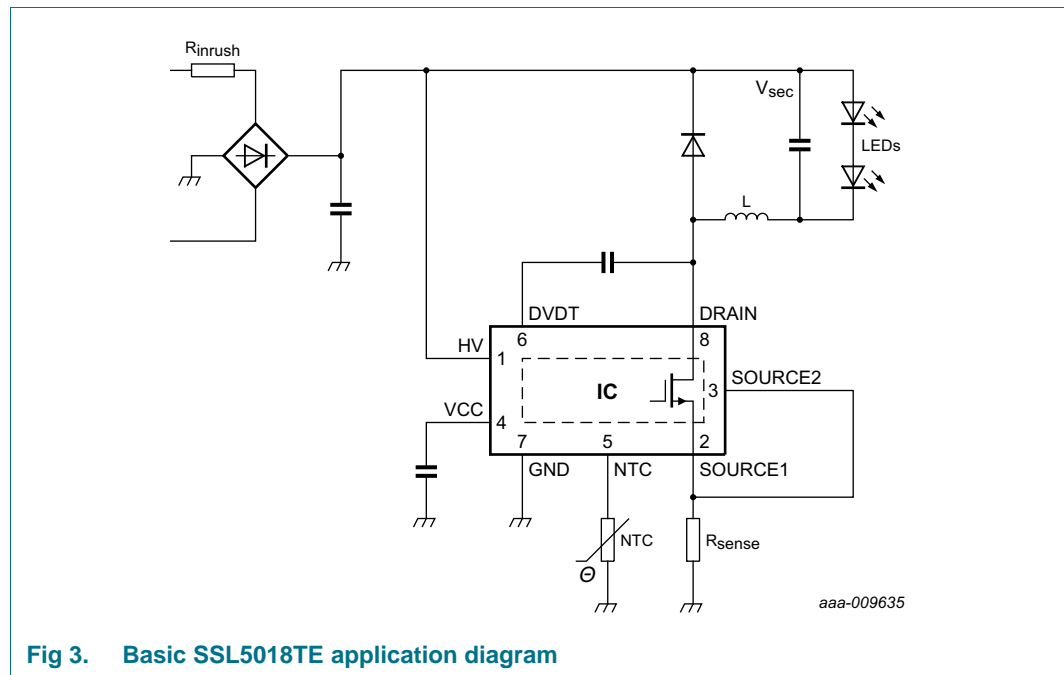
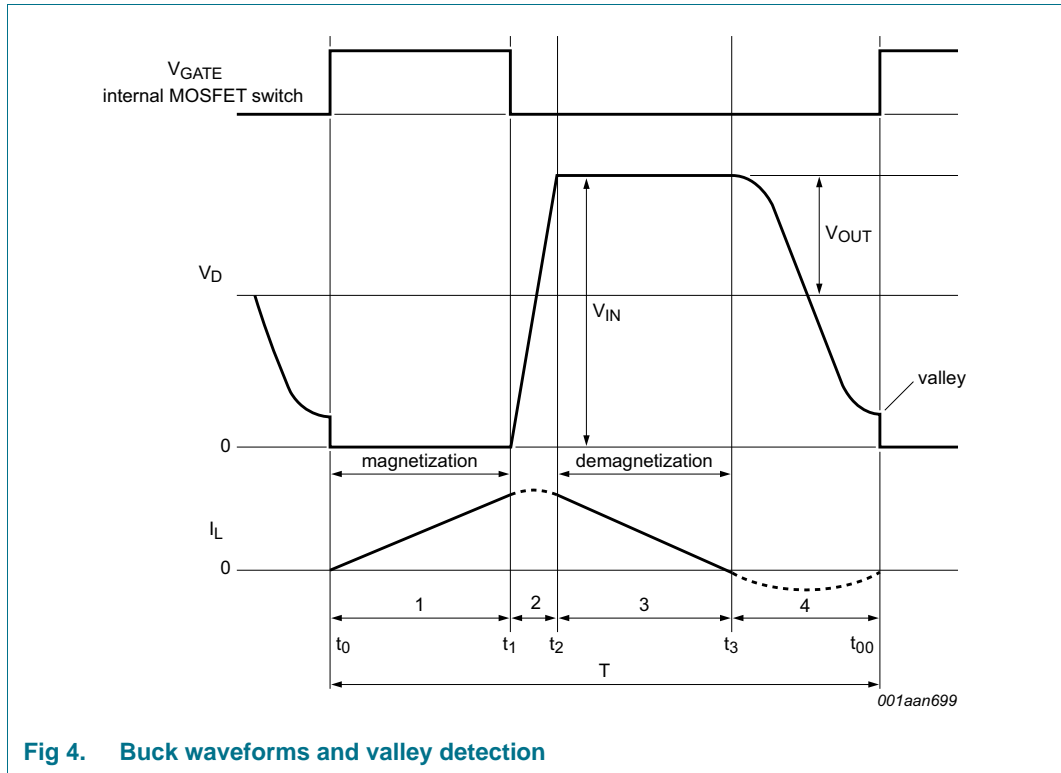

Fig 3. Basic SSL5018TE application diagram
Fig 4. Buck waveforms and valley detection
- Low BOM LED driver solution (see Figure 3):
The converter in the SSL5018TE is a BCM, peak current controlled system. Figure 3 shows the basic application diagram. Figure 4 shows the waveforms. This converter operates at the boundary between continuous and discontinuous modes. Energy is stored in inductor L when the MOSFET is switched on. The inductor current  $I_L$  is zero when the internal MOSFET is switched on at  $t_0$ . Thereafter, the amplitude of the current builds up in L proportionally with  $V_{IN} - V_{OUT}$  and the time that the internal MOSFET is on ( $t_0$  to  $t_1$ ). The peak current sensed at the SOURCE2 pin determines when the MOSFET is switched off. When the internal MOSFET switches off at  $t_1$ , the current flows through the freewheeling diode and the output capacitor ( $t_2$  to  $t_3$ ). The current then drops at a rate proportional to the value of  $V_{OUT}$ . When the inductor current reaches zero, after a short delay ( $t_3$  to  $t_{00}$ ), a new switching cycle is started when the MOSFET is switched on again.